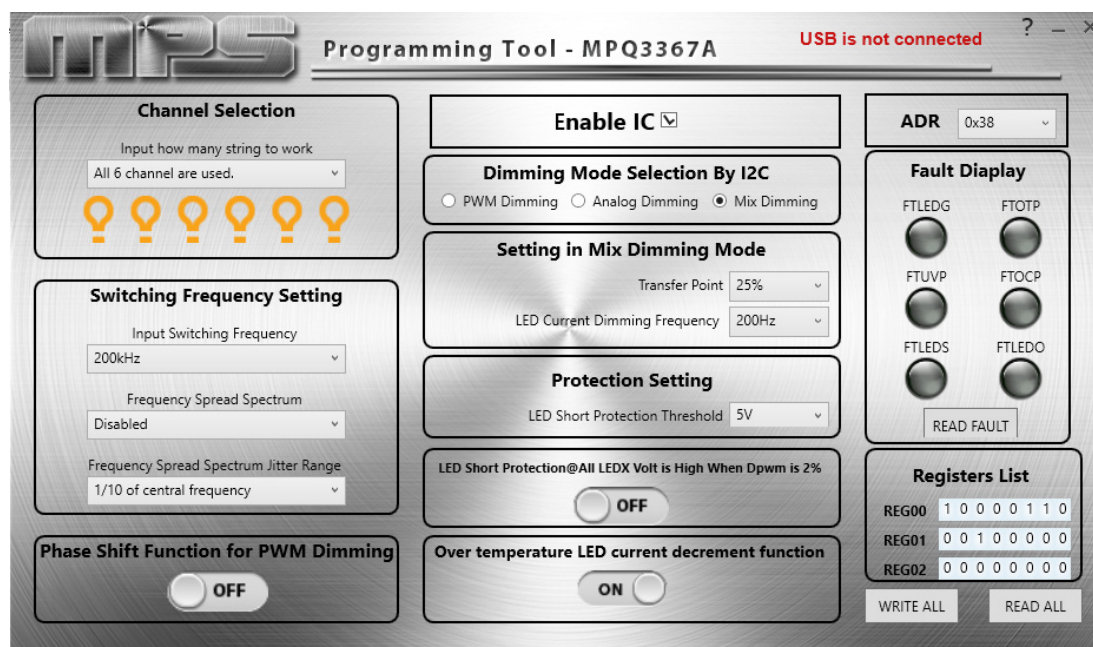

Figure 1: MPQ3367A GUI
- a. Ensure that the I²C kit can communicate with the computer. If the message “USB is not connected” appears on the GUI, then the I²C kit cannot communicate with the computer (see Figure 1). Otherwise, the GUI and I²C kit are able to communicate. ⁽¹⁾